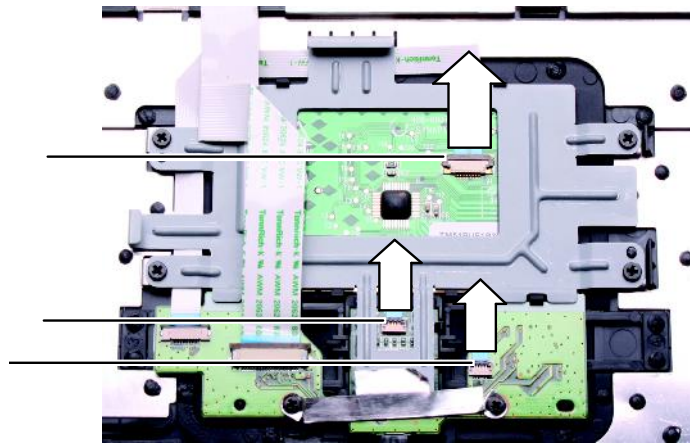

Fig. 56 Disconnecting the touchpad flat cable.
1. Swing the black fingerprint reader connector clip upward, then lift the cable out of the connector (see *Fig. 56*).